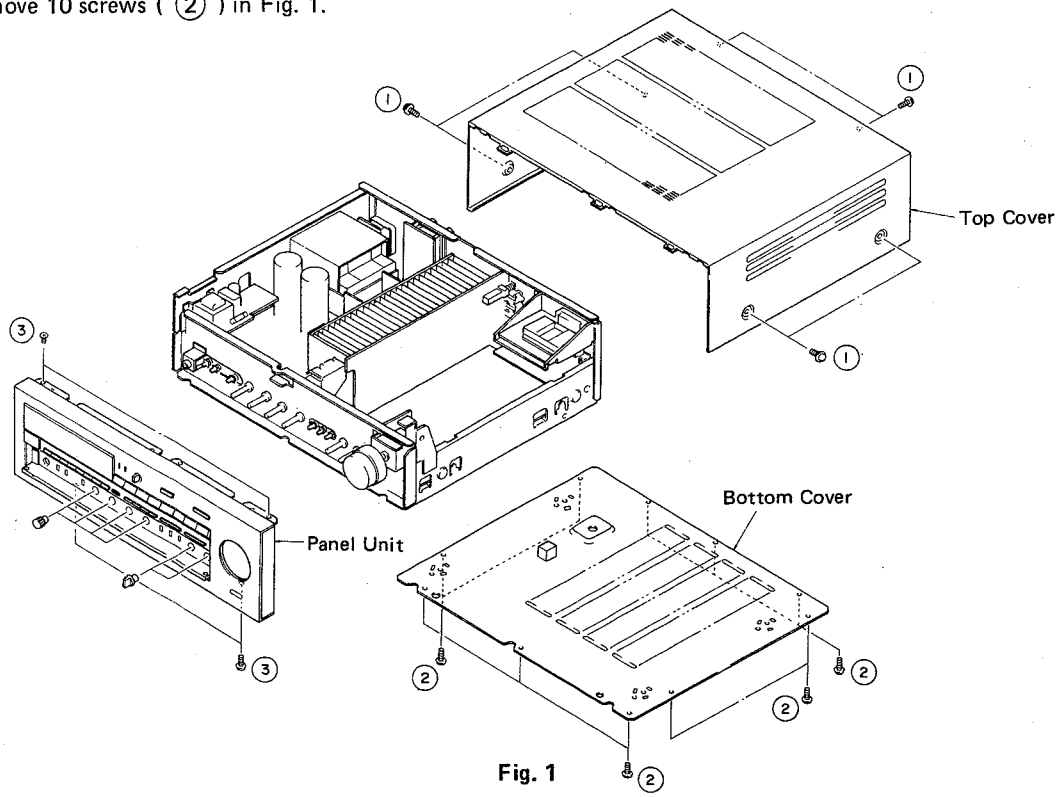

Fig. 1
Remove 6 screws (①) in Fig. 1, and slide the Top Cover back and up.
Remove 10 screws (②) in Fig. 1.
- b. Remove 4 screws (③) in Fig. 1, and pull the Panel Unit forward.